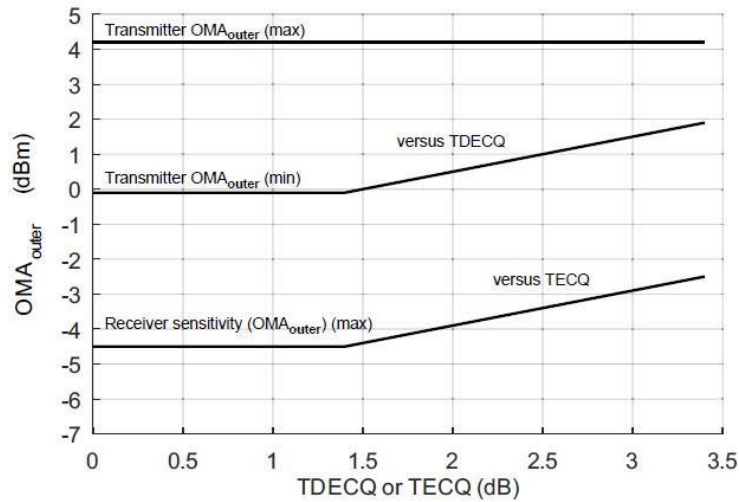

Figure 6. Illustration of Transmitter OMA_{outer} and Receiver Sensitivity Mask for 2x400G FR4
2. The values for $OMA_{outer}(min)$ vary with TDECQ. Figure 6 illustrates this along with the values for $OMA_{outer}(max)$.
5. Receiver sensitivity (OMA_{outer}) is informative and is defined for a transmitter with a value of TECQ up to 3.4 dB. Receiver sensitivity should meet Equation (1), which is illustrated in Figure 6.